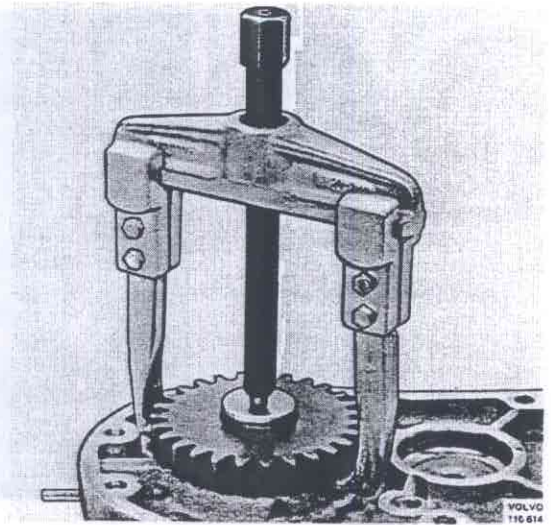

Fig. 48-14. Removing the drive
1. Remove the circlip on the input shaft and pull off the drive with a standard puller, see Fig. 48-14.